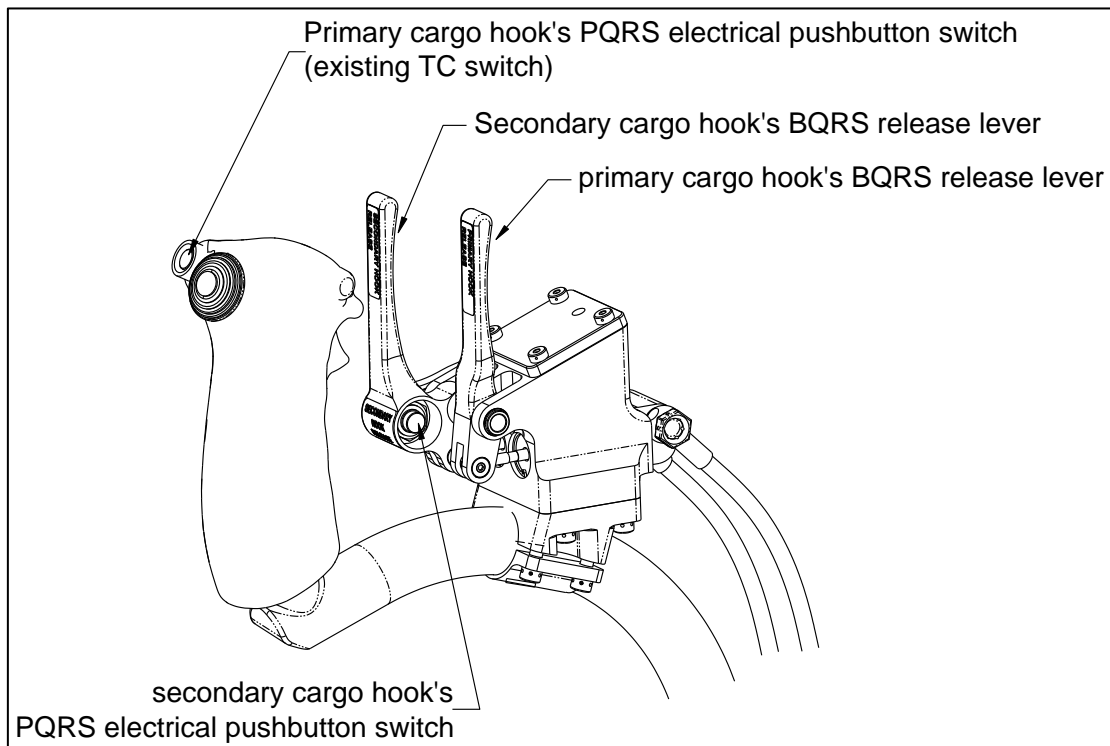

Figure 2 –Cargo Hook Controls
- A primary quick release sub-system (PQRS) and a backup quick release sub-system (BQRS) for each of the cargo hooks including the controls on the cyclic (see **Figure 2**).